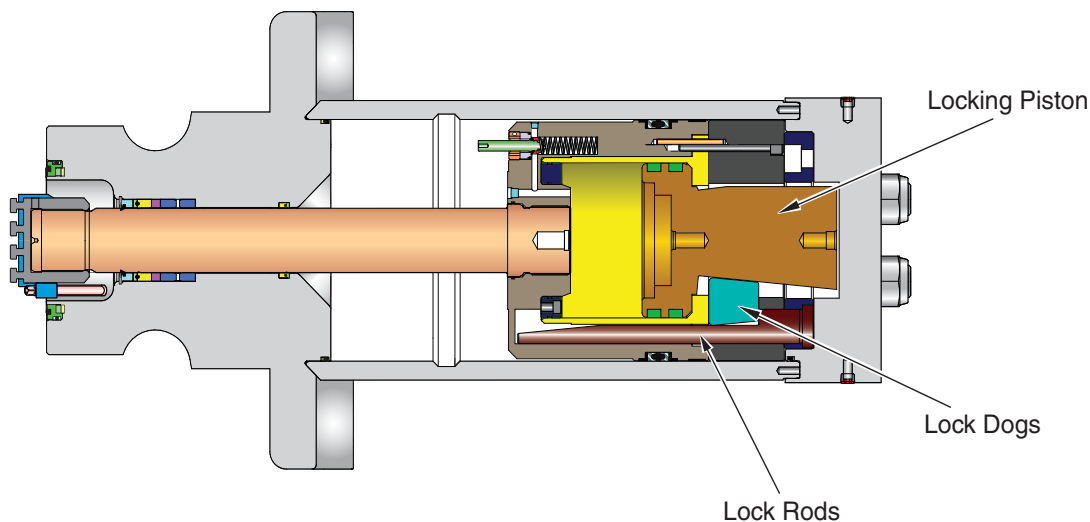

Figure 2-3. UltraLock II (B) NXT Door Assembly
The UltraLock II (B) locking system incorporates a unique mechanical locking mechanism within the operating cylinder's piston assembly that is not dependent on closing pressure to maintain a positive lock. This locking system utilizes flat taper wedge locking dogs, carried by the operating piston, that engage stationary flat taper wedge locking rods located within the operating cylinder to effect the required locking force (see Figure 2-3).